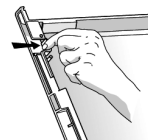

Fig. 3
1. Remove the compartment lid by releasing the two side clips on the bottom front (See Fig. 3)